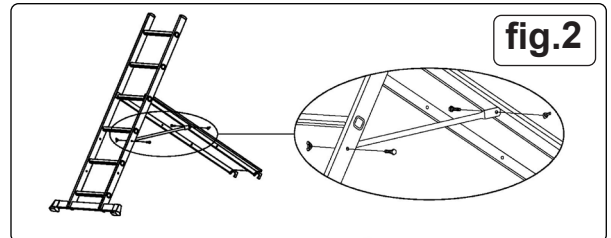

fig.2
- 4.2.1. Attach the platform, at the desired height, to one ladder only, fig.2.
- 4.2.2. Attach the support stay between the platform and the ladder by inserting it first into the platform and then attaching it to the ladder, fig.2.
- 4.2.8. Attach the support stay between the stairway work platform and the ground-based ladder by inserting it first into the platform and then attaching it to the ladder, fig.2.
- 4.2.10. Attach the second support stay between the stairway ladder and the work platform, fig.2.
- 4.2.11. The maximum height above the ground of the steps on which the stairway ladder is to be located when assembled is **0.56 metres**, fig.2.